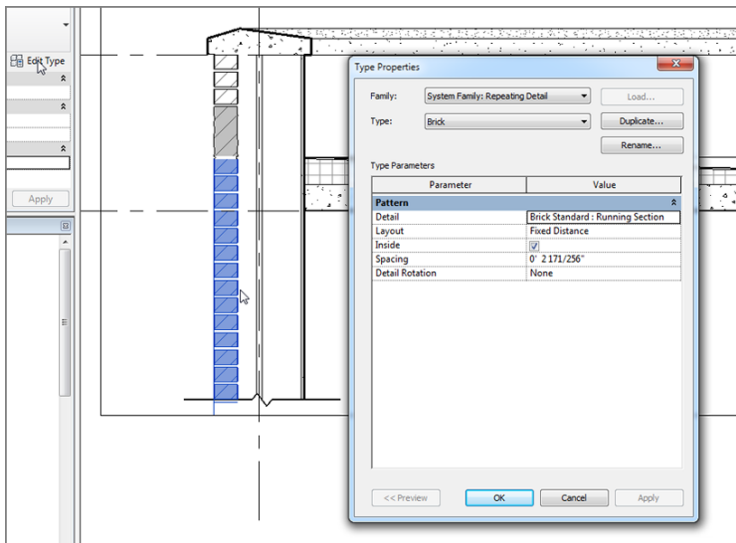

FIGURE 12.30: Click the Edit Type button after selecting one of the brick repeating details.
- 2.** Select one of the repeating details, as shown in Figure 12.30.
3. In the Properties dialog box, click Edit Type, as shown at the upper left in Figure 12.30.